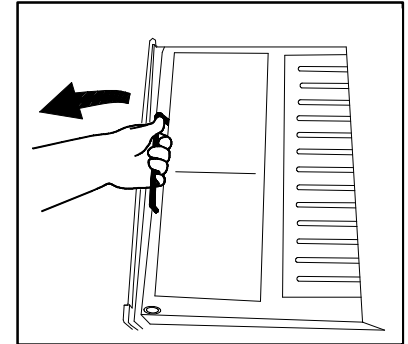

FIGURE 3-23: UNFOLD FRONT PLATFORM SECTION
- 4) Refer to **Figure 3-23**. Grasp hoop handle (located at left side of front platform section) with left hand and begin to unfold front section. When it is vertical, release left hand and grasp top edge with right hand. Finish unfolding.